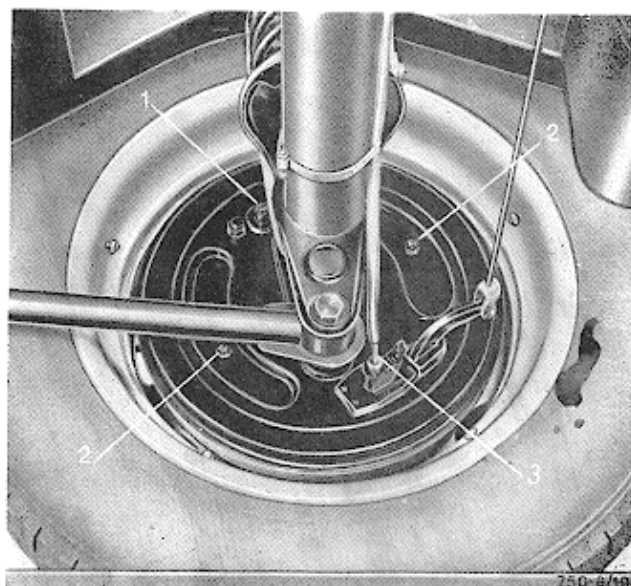

Fig. 18 - Bleeding the rear-wheel brake cylinders and adjusting the play between the shoes and drums
Place both adjusting cams 1 (Fig. 18) in such a position that the wheel can rotate freely.
- 2) Bleed the two rear-wheel cylinders separately as follows (Fig. 18):